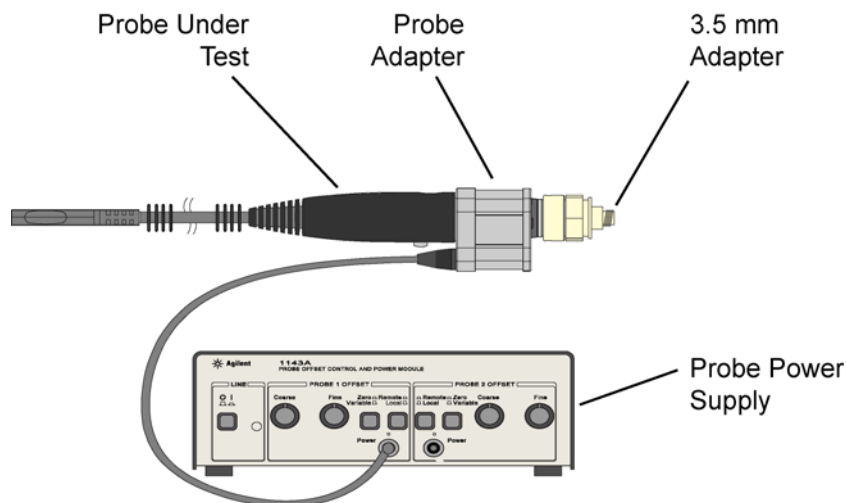

Figure 168 Probe Connected to Power Supply
- 6 Connect the probe under test to the Auto Probe Adapter and power the probe using the 1143A power supply Figure 168 on page 200. Install the outside thread adapter to the Auto Probe Adapter.